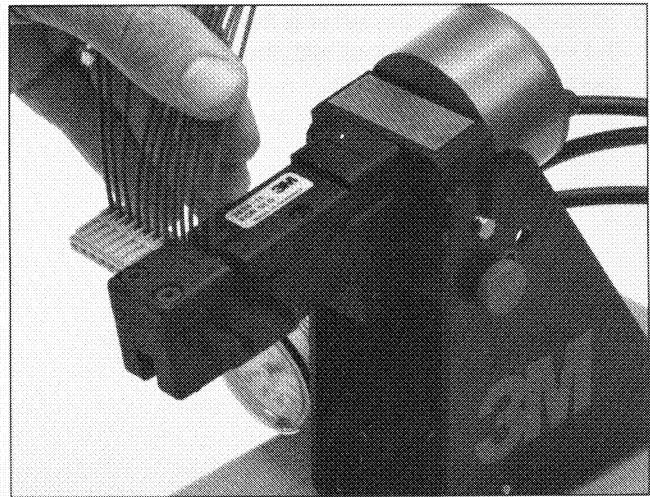

Figure 6
7. After completing last termination, slide connector body to the left and remove from assembly head (Figure 6).